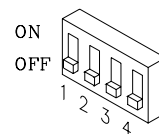

Figure 1
2. Using an insulated tool, turn DIP SWITCH 1 on (up position). Refer to figure 1.